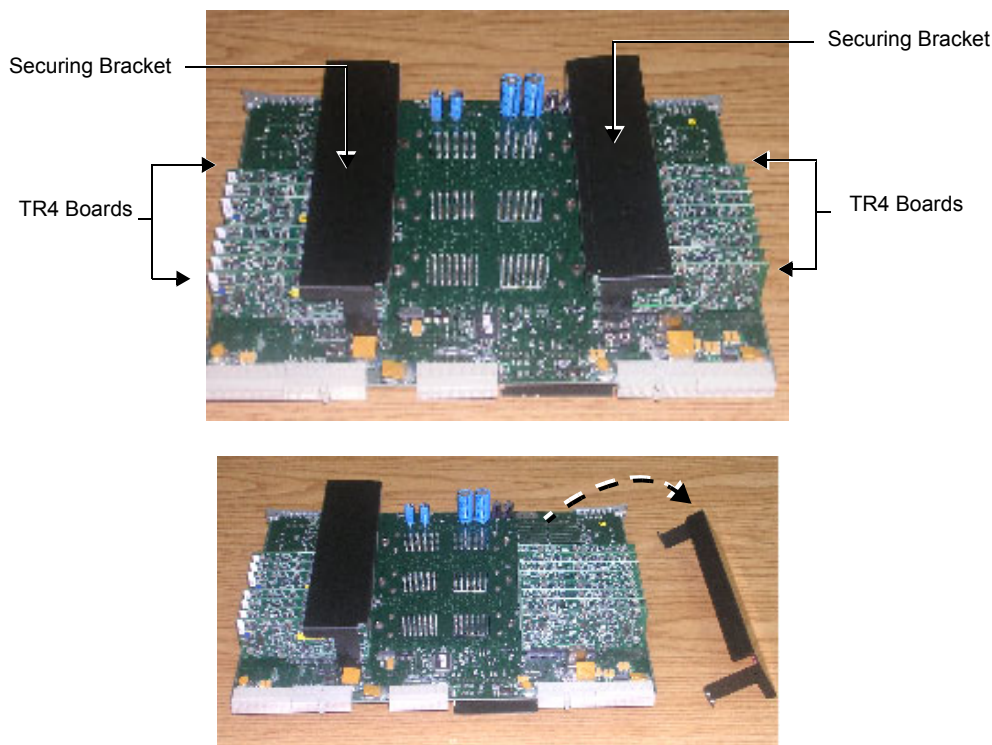

Figure 8-33 Removing the Securing Brackets
- 4.) Turn the FE Board over, then remove the brackets that secure the TR4 boards in place as shown in Figure 8-33 below.